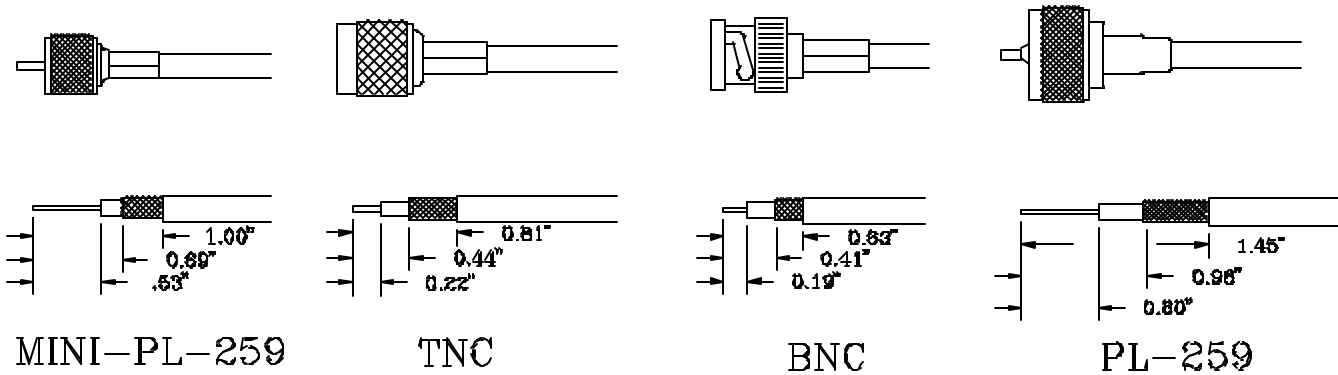

Figure 6 - Cable Stripping Dimensions
8. **Install Connectors:** Refer to Figure 6 for cable stripping dimensions (Drawing is not to scale).